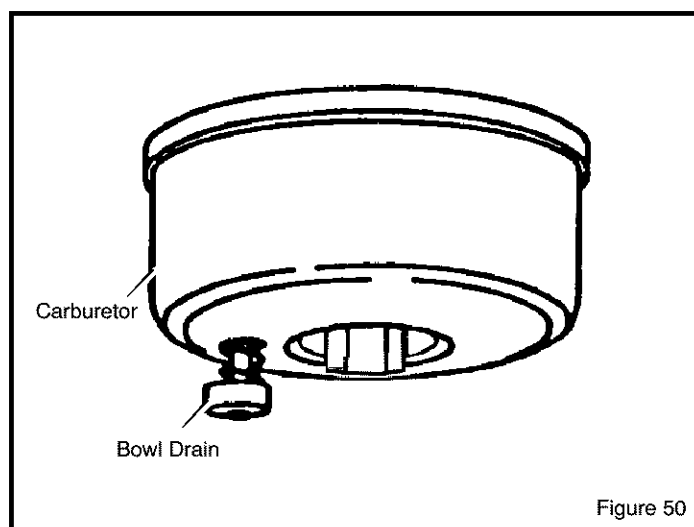

Figure 50
1. To remove gasoline, run engine until tank is empty and engine stops. Then drain remaining gasoline from carburetor by pressing upward on bowl drain located on the bottom of carburetor (see Figure 50).